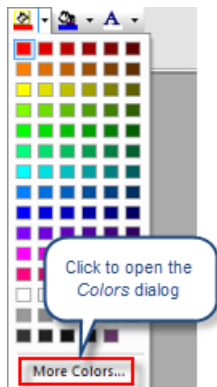

FIG. 420 Border Color, Fill Color or Text Color toolbar icons - More Colors option
- When setting new button parameters, click on the *Border Color*, *Fill Color* or *Text Color* toolbar icons to open the base palette, then click **More Colors** (FIG. 420):